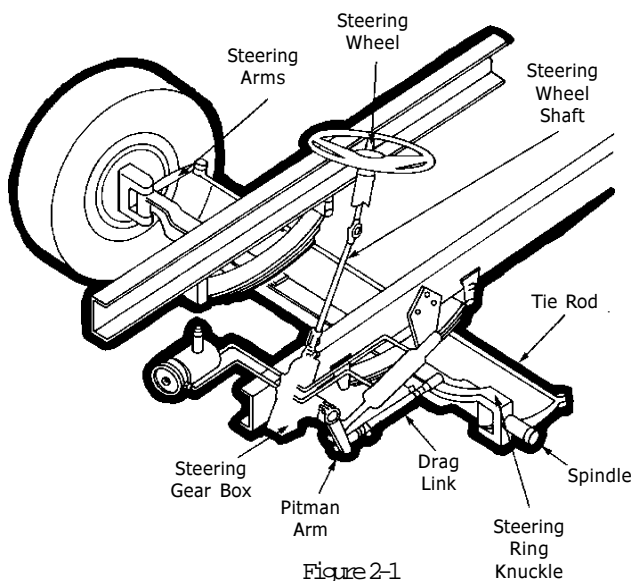

Figure 2-1
- **Steering System Defects**—(Figure 2-1) A poorly maintained steering system can cause steering problems.